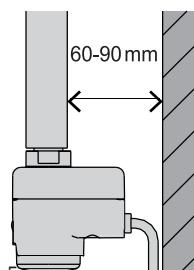

Fig. 2
- The Towel rail has to be mounted parallel to the wall using the brackets recommended by the towel rail manufacturer. The distance between MOBUS and the wall must be between 60 and 90 mm (Fig. 2). In order to avoid a hazard for younger children, the electrical towel rail should be installed so that its bottom part is at least 600mm above the floor according to EN 60335-2-43/A1.